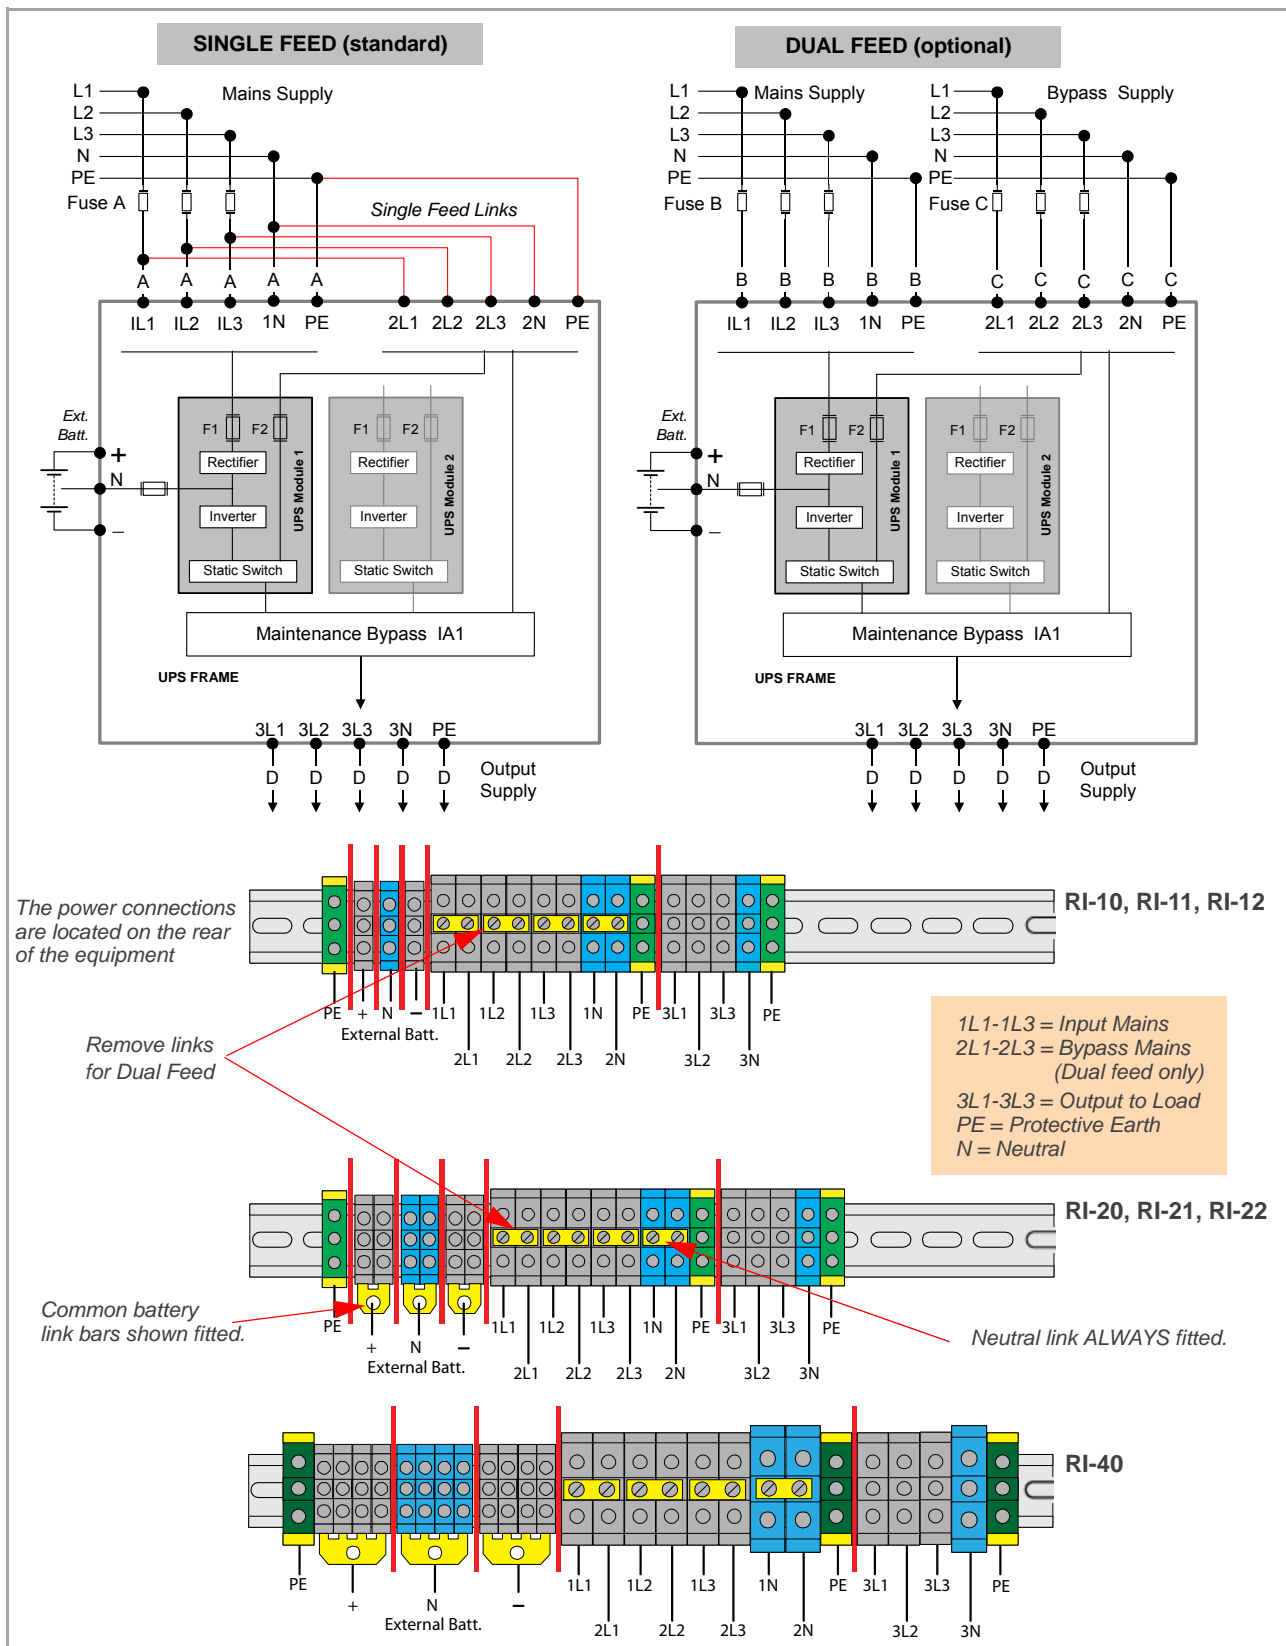

Figure 3.12 PowerWAVE 8000DPA RI power cable connection sizes
Figure 3.12 shows details of the UPS power terminals' location and sizing and illustrates that the UPS unit requires the following power cables:
Refer to the schematic drawing and connection table in Figure 3.12.
1. Connect the UPS input supply cables to terminals 1L1, 1L2, 1L3 and 1N on the UPS main terminal block (See Figure 3.12). Ensure correct (clockwise) phase rotation.
For a dual feed configuration remove the links between 1L1 - 2L1; 1L2 - 2L2; and 1L3 - 2L3 on the Input Terminal Block (See Figure 3.12). Leave the Neutral link connected between 1N - 2N.
2. Connect the UPS input supply cables to terminals 1L1, 1L2, 1L3 and 1N on the UPS main terminal block (See Figure 3.12). Ensure correct (clockwise) phase rotation.
3. Connect the UPS bypass supply cables to terminals 2L1, 2L2, 2L3 and 2N on the UPS main terminal block (See Figure 3.12). Ensure correct (clockwise) phase rotation.
3. Connect the protective earth cable from the Load Distribution Board to the output protective earth (PE) terminals, as shown in Figure 3.12.
4. Connect the UPS output supply cables to terminals 3L1, 3L2, 3L3 and 3N on the UPS main terminal block (See Figure 3.12). Ensure correct (clockwise) phase rotation.